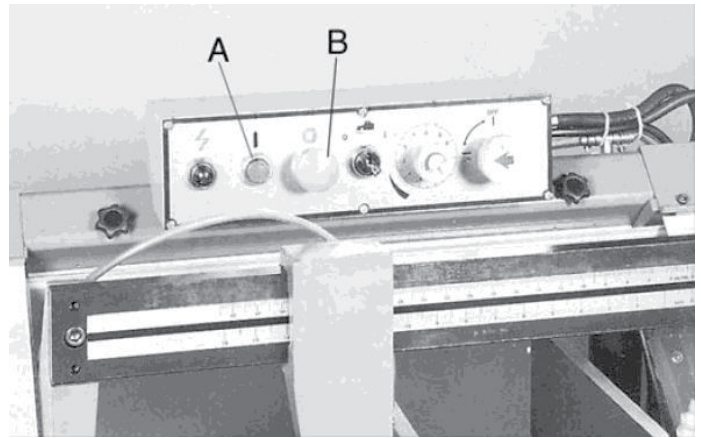

Figure 4. Start Button (A) and Stop Button (B)
The saw frame must be in the raised position before starting the machine. The machine is started by pushing the start button (A) Figure 4, and will continue to run until the saw frame is in the down position at the end of the cut, or when the stop button (B) is pushed.